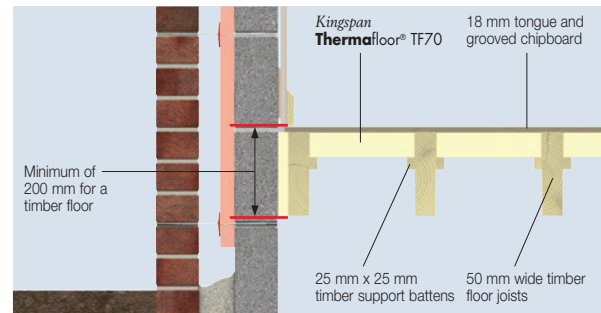

Figure 9 – Complete Timber Floor Insulation
- In order to minimise cold bridging at the edge of the floor, the distance between the top surface of the floor insulation or perimeter insulation upstand, and the bottom of the wall insulation must be a minimum of 150 / 225\* mm (see Figures 1 & 2) for a concrete floor and 200 mm for a suspended timber floor (see Figure 9). The further down the wall insulation extends past the floor insulation, the better the thermal performance of the junction between the wall and the floor.